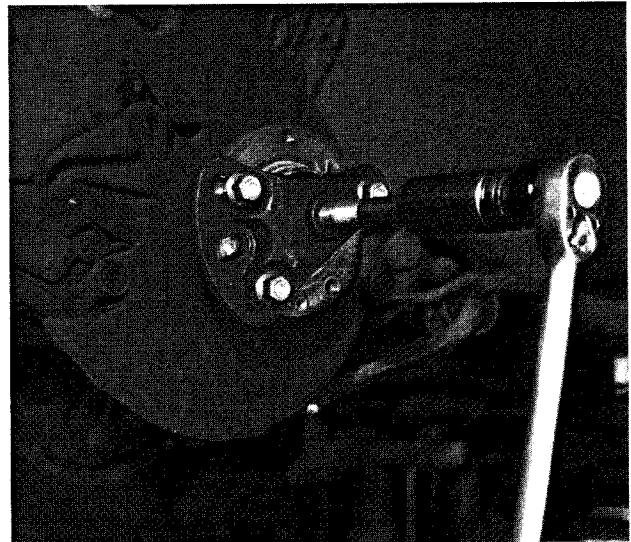

Fig. 14. Wheel hub with integral wheel bearing being removed using a puller.
9. Remove wheel hub with integral wheel bearing from steering arm using a puller. See Fig. 14.